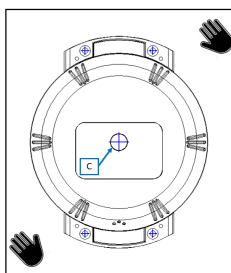

Figure 1
- 1.1. Take the centering sheet inside the product box. Put the sheet on the chosen area and keep it stretched (fig. 1).